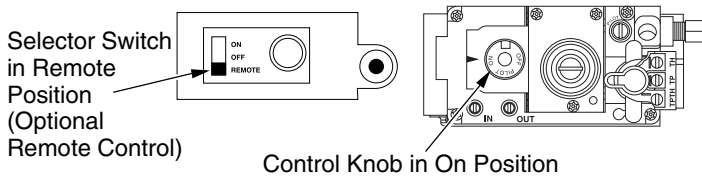

Figure 48 - Setting the Selector Switch, Control Knob, and Flame Adjustment Knob for Remote Operation
1. After lighting, let pilot flame burn for about one minute. Turn control knob to ON position. Adjust flame adjustment knob anywhere between HI and LO. Slide the selector switch to the REMOTE position (see Figure 48). **Note:** The burner may light if hand-held remote was on when selector switch was last turned off. You can now turn the burner on and off with the hand-held remote control unit.